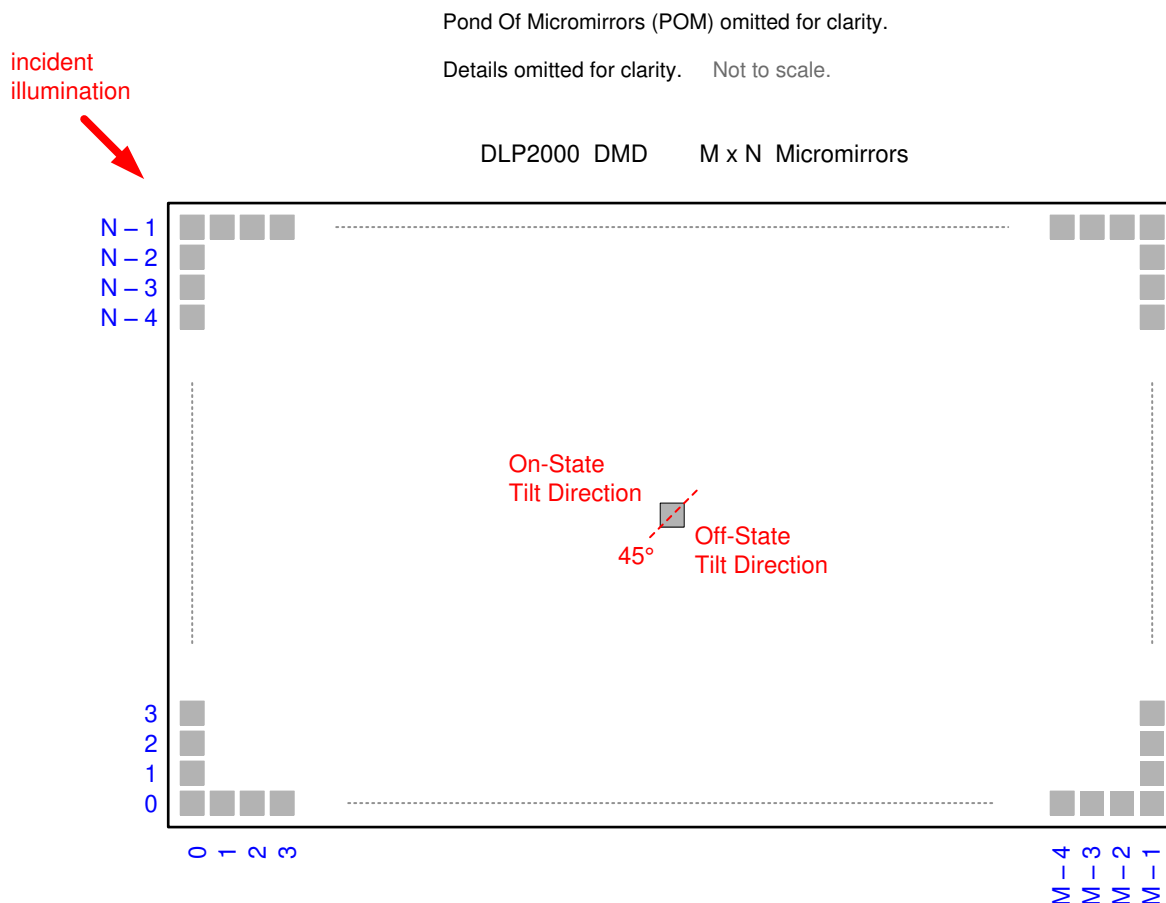

图 6-9. Landed Pixel Orientation and Tilt
- (1) Limits on variability of micromirror tilt half angle are critical in the design of the accompanying optical system. Variations in tilt angle within a device may result in apparent non-uniformities, such as line pairing and image mottling, across the projected image. Variations in the average tilt angle between devices may result in colorimetry and system contrast variations. The specified limits represent the tolerances of the tilt angles within a device.
- (2) See Fig 6-9.
- (3) Conditions of acceptance: All DMD image quality returns are evaluated using the following projected image test conditions:
- (4) Bright pixel definition: A single pixel or mirror that is stuck in the ON position and is visibly brighter than the surrounding pixels
- (5) Gray 10 screen definition: All areas of the screen are colored with the following settings: